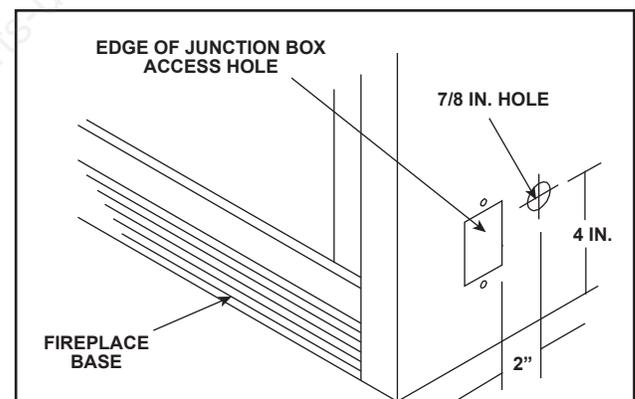

Figure 6.
1. A 7/8 in. diameter hole must be bored in the side of the fireplace outer wrap in which the 5 wires from the power vent will be routed. The hole should be located 2 inches to the side of the junction box and 4 inches up from the base of the fireplace. See Figure 6.